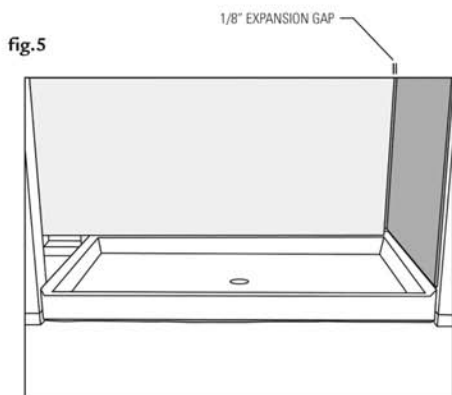

fig. 6
2. Wipe the back of the panels making sure they are clean dry and free of dirt and grease. Apply a bead of adhesive, on the wall, within 3" of the perimeter of the panel and 1 1/2" diameter portions of adhesive spaced 12" apart over the remaining field. See figure 6.